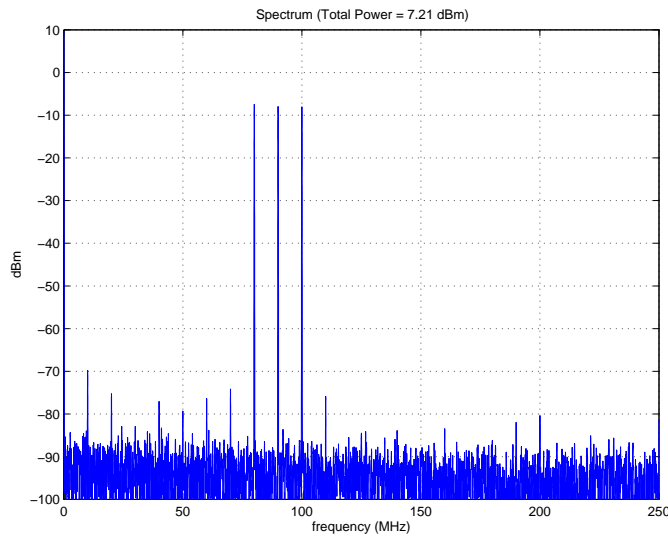

Figure 4.25: Measured: ADS5463 Digitized 80MHz, 90MHz, and 100MHz Sine Wave; Frequency Domain
- ii. Sine Waveform @ $F = 80\text{MHz}$, 90MHz , and 100MHz ; Frequency Domain (See Figure 4.25.)